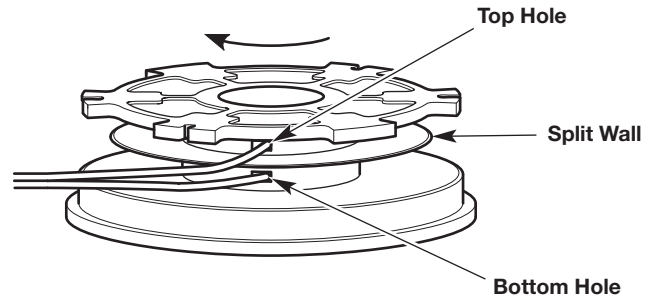

Fig. 21
2. Using one split end, insert one line into the top hole and the other line into the bottom hole in the inner reel (Fig. 21).